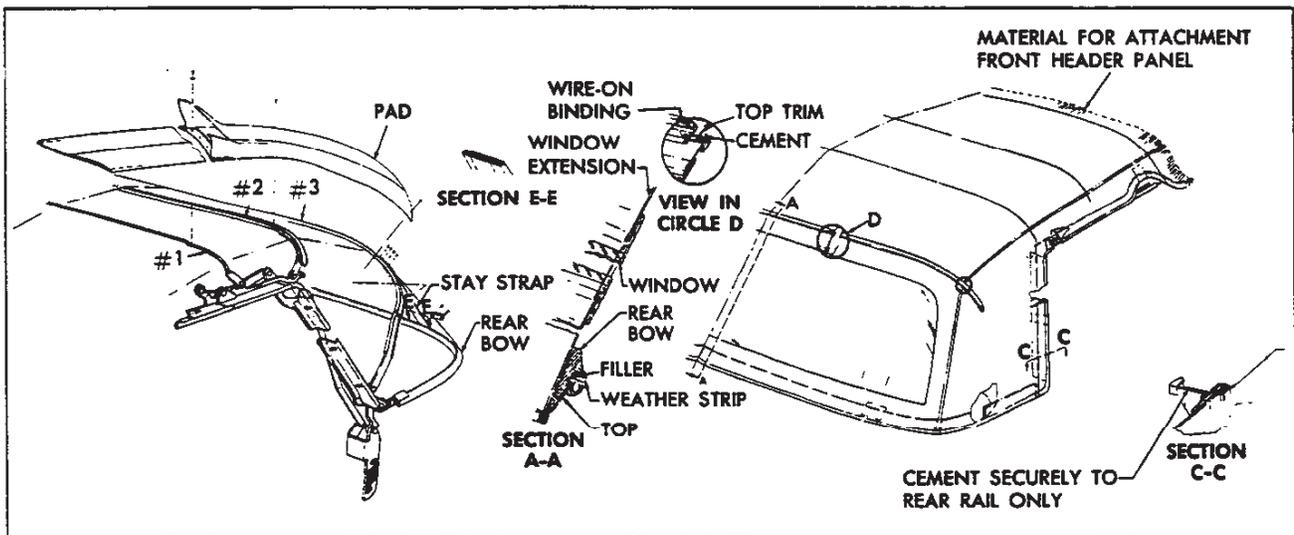
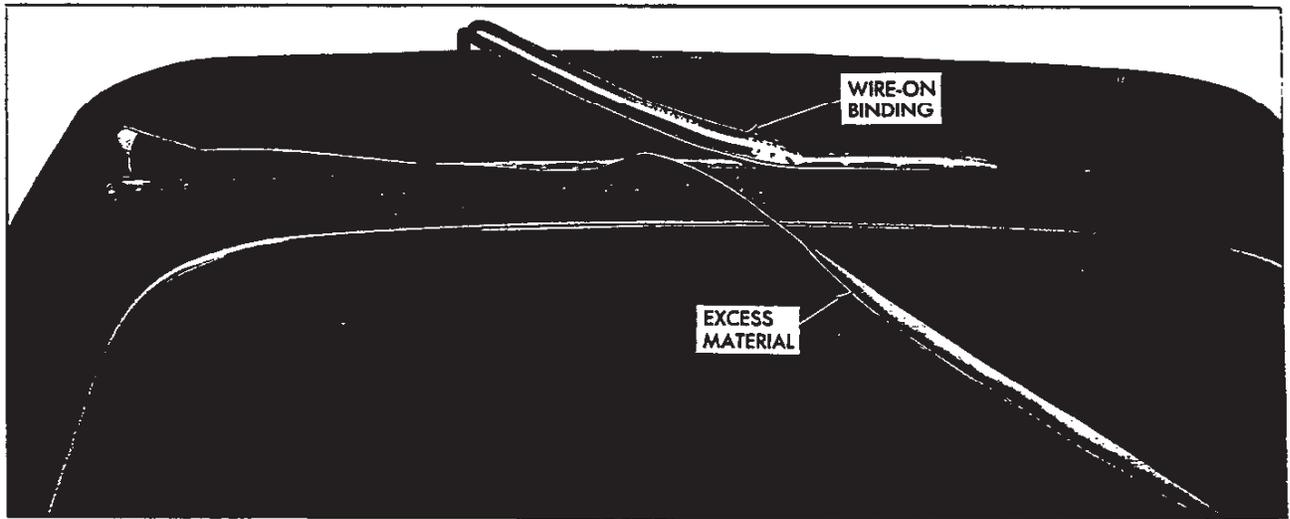

Fig. 64—Folding Top Trim Installation
Fig. 71—Installing Binding
complete. Figure 64 may be referred to for parts identifications. Lettered sections (i.e. Section A-A) referred to in the instructions may also be found in Figure 71. Note that the sections are illustrated as they would appear if the parts were cut through on the lettered lines on the top assembly and the cut surface exposed. Arrows indicate direction in which you would have to look in order to see the view shown.
8. Draw window extension up to #3 bow, aligning centering marks. Turn an ample amount of fabric under and tack to #3 bow. Apply neoprene trim cement, GM Part #3695016 or equivalent, to area shown in View D of Figure 64. Follow directions on package.
- as shown in Figure 71 and View D of Figure 64. Install binding caps.